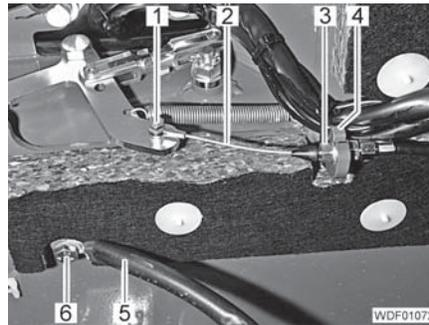

Fig. 333 Front attachment of the Bowden cable
- Unscrew the screw (Fig. 333,6) and remove the grounding strip (Fig. 333,5).
- Unscrew the screw (Fig. 333,1).
- Undo the nut (Fig. 333,3) and remove the Bowden cable (Fig. 333,2) from the mount (Fig. 333,4).